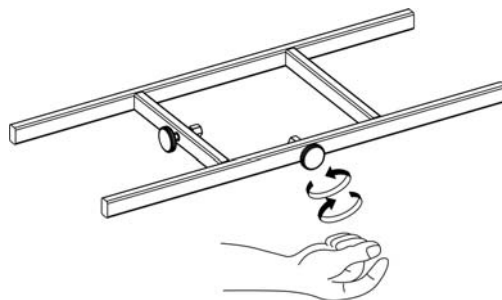

Figure 10
9. Tighten the threaded knobs found on the LP support frame (Figure 10) so that the LP tank cannot move from side to side. Do not remove the plastic cap from the end of threaded section.